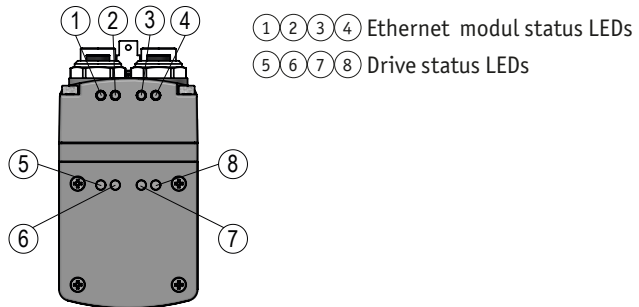

Fig. 9: Status Display
With factory settings, the LEDs ⑤⑥⑦⑧ (Fig. 9) inform about the drive's status. You can configure the functions of the drive status LEDs. For a description of the functions of the drive status LEDs refer to the relevant user manual.